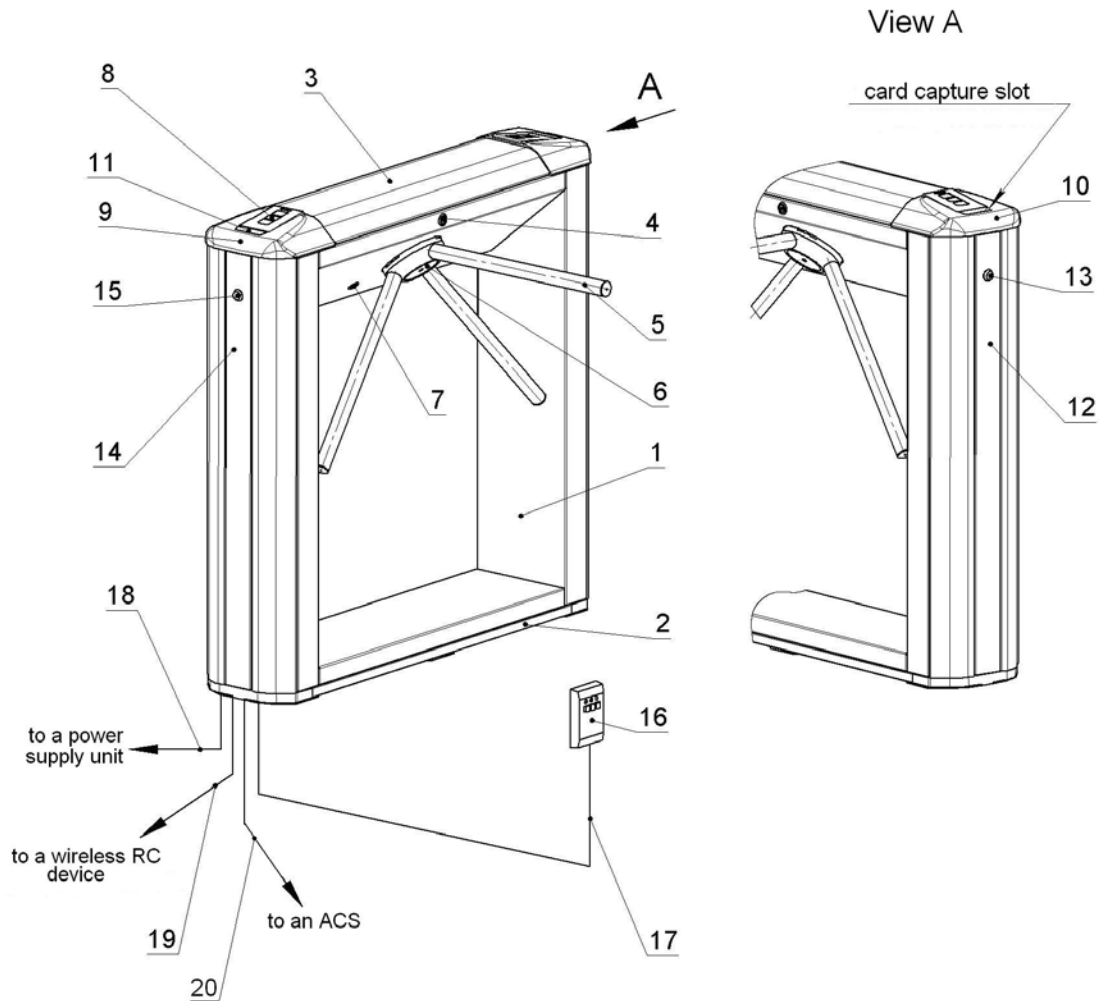

Figure 1 – TBC-01 overall view
6.2.1. Design of the TBC-01 turnstile is shown in Figure 1. Numbers of the items hereinafter refer to the item numbers as shown in Figure 1 unless stated otherwise.
- 1 – frame; 2 – base; 3 – top cover; items 1-3 form turnstile housing;
The TBC-01 turnstile consists of a turnstile housing with built-in electronics (CLB), two card readers and a card capture reader, three barrier arms and an RC panel (Ref. Fig. 1, items 1-3, 5 and 16).